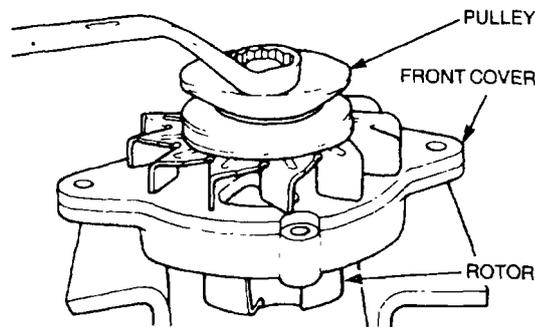

Figure 288 Removing the Front Pulley and Cover
- (3) Carefully clamp the rotor in a vice fitted with soft jaw protectors, remove the nut retaining the pulley (Figure 288) and remove the washer, pulley, fan, spacer collar and front cover from the rotor.